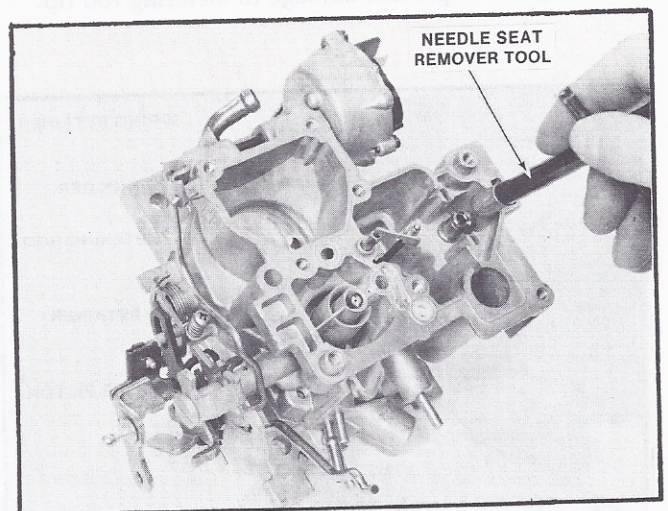

FIGURE 22 REMOVING INLET NEEDLE SEAT
5. Remove float assembly and float needle by pulling up on retaining pin. Remove float needle seat and gasket, using seat remover J-22769 (Figure 22).